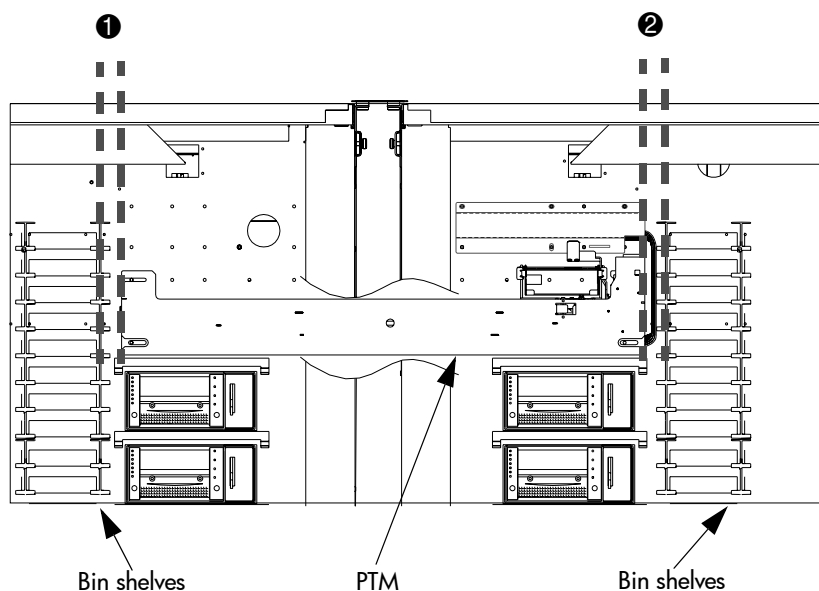

Figure 26: Centering the PTM in an ESL9326 library
1. For the ESL9326, center the PTM between the libraries' bin shelves as shown in Figure 26. The distance between the bin shelves and the PTM in the left library ❶ and the distance between the bin shelves and the PTM in the right library ❷ should be equal within 0.06 inches.